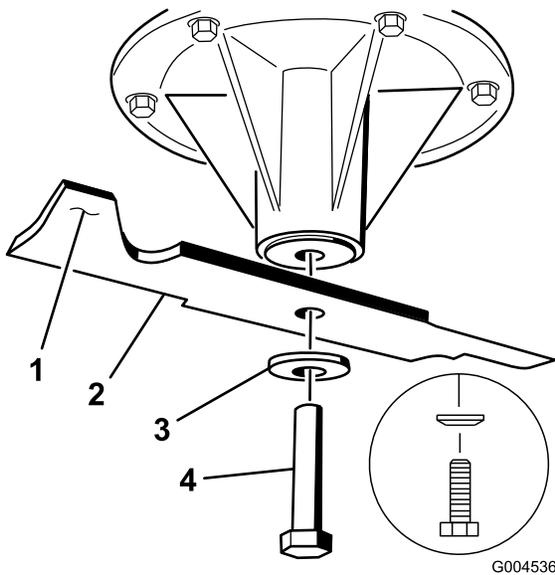

Figure 91
2. Remove the blade bolt, the curved washer, and the blade from the spindle shaft (Figure 91).